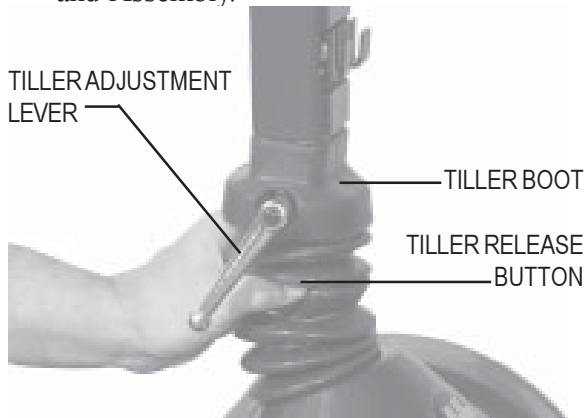

Figure 11. Tiller Angle Adjustment
1. Turn the tiller adjustment lever anticlockwise until it is loose. If the tiller adjustment lever comes in contact with the tiller basket, pull it outward, turn it clockwise, and release it. Continue to loosen until the tiller is able to move. See figures 11 and 11A.